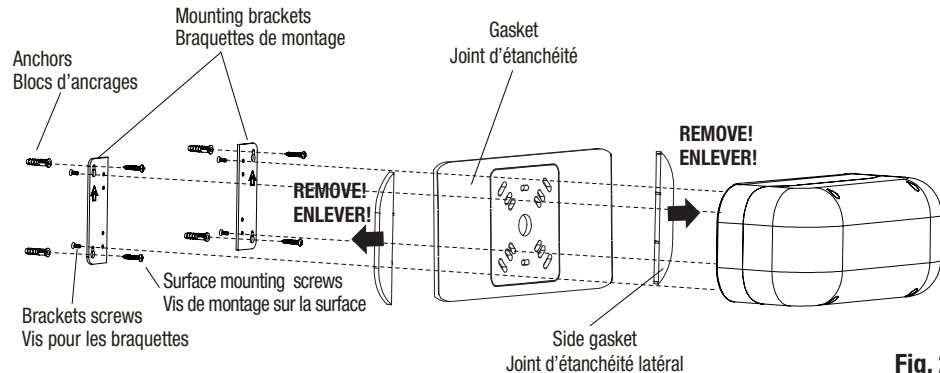

Fig. 2
4.b For installation with mounting brackets (Fig. 2) only, break through appropriate central knockout into the back housing. Remove the sides parts of the gasket and paste it on the back of the unit and route wires through the central hole. Mount the brackets on the back housing using the four screws provided in the hardware bag (use screwdriver PH2X). Place the housing on the required surface and use the bracket holes as a drilling template. Drill the four holes and fix the mounting anchors inside each hole.
6.b For installation with mounting brackets (Fig. 2) only, mount the fixture on the surface using the two brackets and the four mounting screws provided (use screwdriver PH3X). Tighten the screws enough to compress the gasket to ensure a good sealed joint.
4.b Pour installation avec brakettes de montage seulement (Fig. 2), défoncer les orifices prédécoupés appropriés dans le boîtier arrière.
6.b Pour installation avec brakettes de montage seulement (Fig. 2), fixer l'unité en place avec l'aide de deux supports et les quatre vis de montage incluses (utiliser le tournevis PHx2). Serrer les vis suffisamment pour comprimer le joint d'étanchéité pour assurer un joint scellé.